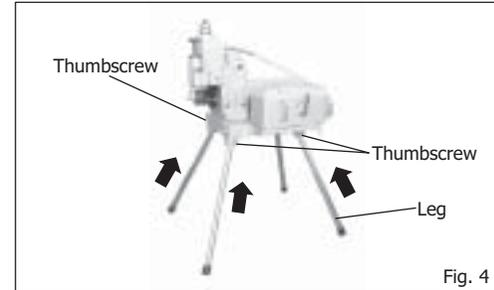

Fig. 4
1. Insert each of the 4 legs into the sockets in the base of the machine, and tighten the thumbscrews on the outside of the sockets to fix the legs in position. (Fig. 4)